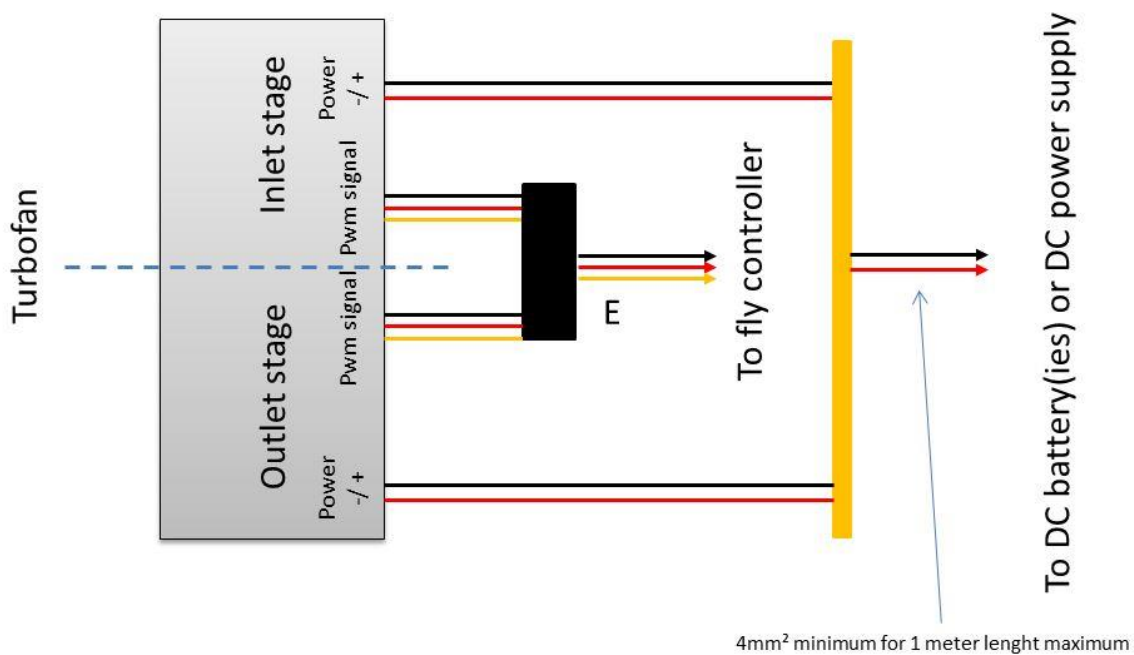

Figure 8 : Turbopan connection, stages together
- Connect inlet ESC RC plug to flight controller (“I” plug) and then outlet ESC RC plug (“O” plug) to flight controller in the case where the stages are managed separately (cf. fig.8)